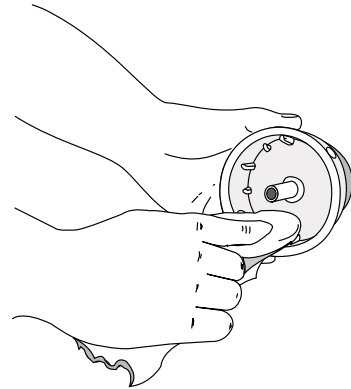

Fig. 23
4. Use a clean cloth to clean the the inner reel, spring, shaft, and inner surface of the outer spool (Fig. 23).